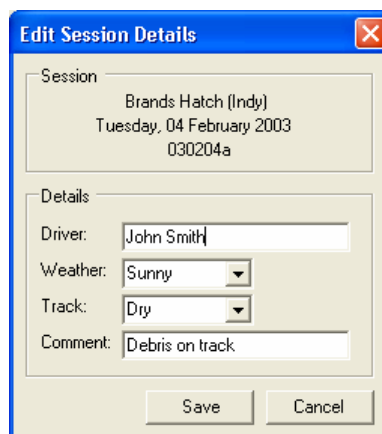

Figure 20 - Edit Session Details Dialog
2. Select **Edit ➔ Session Details** from the main menu, or select the **Edit Details** option from the context menu attached to the session node. The Edit Session Details dialog (Figure 20) appears.